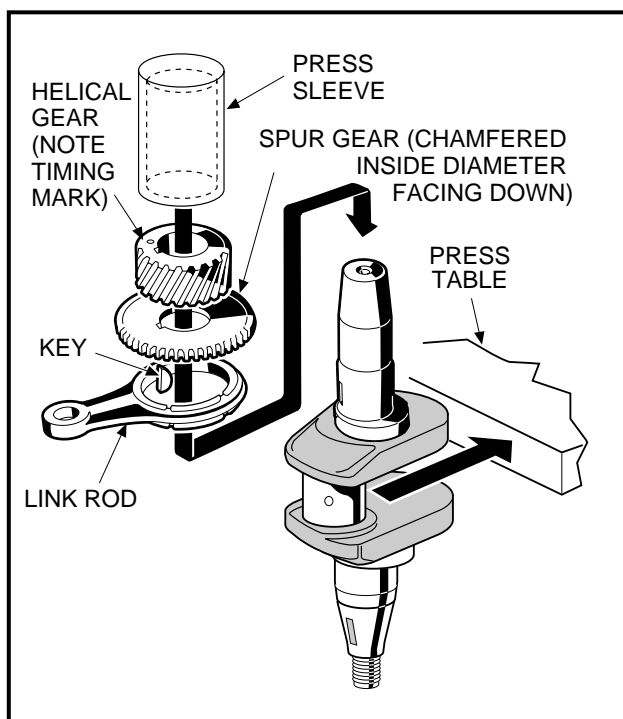
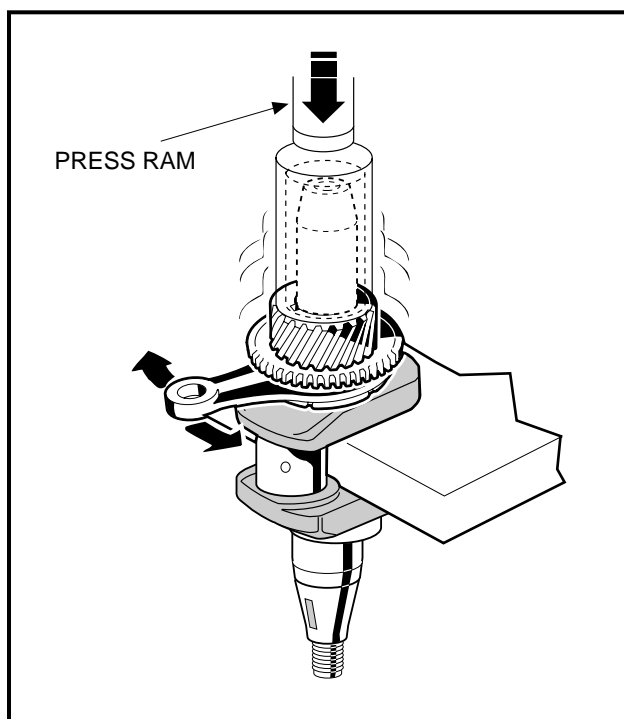

Figure 13-95 Crankshaft Installation
Figure 13-96 Press On Spur Gear and Helical Gear
3. If the link rod was removed from the PTO side of the crankshaft, support the crankweb as shown, slide the link rod onto the crankshaft, and install the key. Press the spur gear and helical gear onto the crankshaft (**Figure 13-95, Page 13-43**) and (**Figure 13-96, Page 13-43**). **See following CAUTION and NOTE.**
- MAKE SURE THE CHAMFERED INSIDE DIAMETERS OF THE SPUR GEAR AND HELICAL GEAR ARE ORIENTED DOWNWARD ON THE CRANKSHAFT AS SHOWN (**FIGURE 13-95, PAGE 13-43**).